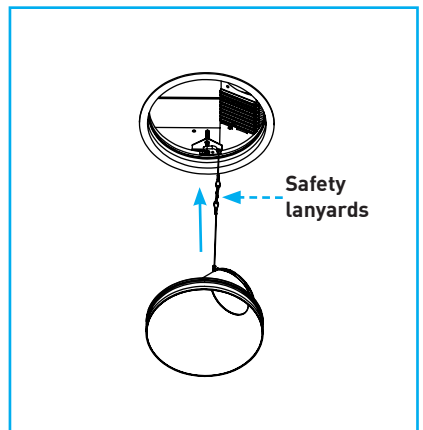

Fig.41
Connect safety lanyards. Push baffle up until flush with the flange or the finished ceiling plane on trimless applications (*Fig.41*).
- D. Connect safety lanyards and reinsert baffle to locked position by pushing up into trim aperture (Fig.41).